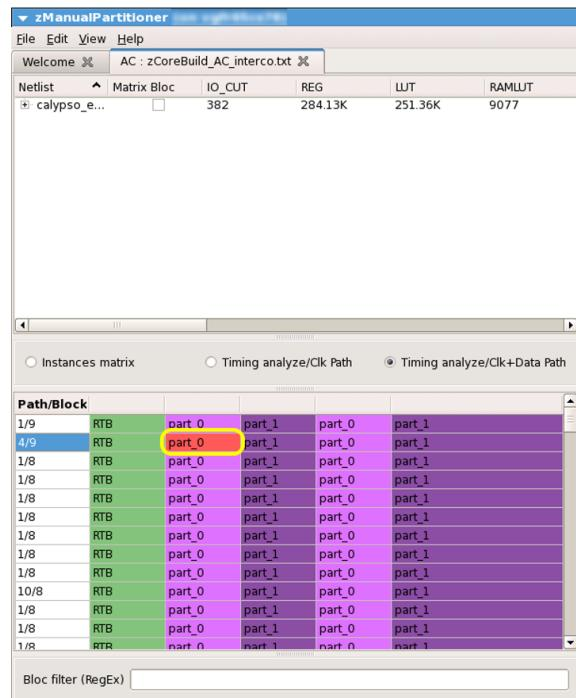

FIGURE 63. Element Modified in the Timing Analysis Pane
5. Click **Apply** and then **Close**. The modified element is now in red. It means that it is required to launch timing analysis again (see Figure 63).